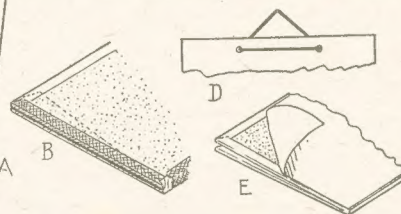

Fig. 3—Hanging and fixing details
and paste this over the back to hide the edges of the gussets and bottom hinge, as seen at (E) Fig. 3.